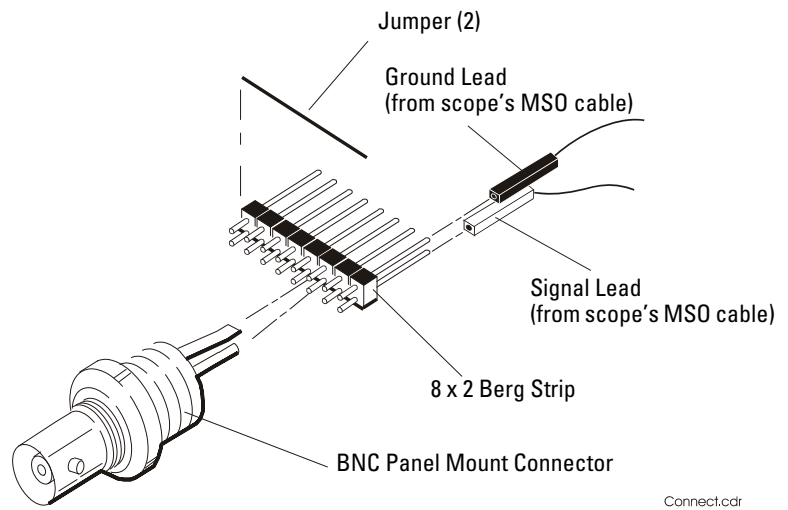

Figure 1 Constructing the 8-by-2 Connector
- 2** On one side of the Berg strip, solder a jumper wire to all of the pins (shown in Figure 1 on page 27).